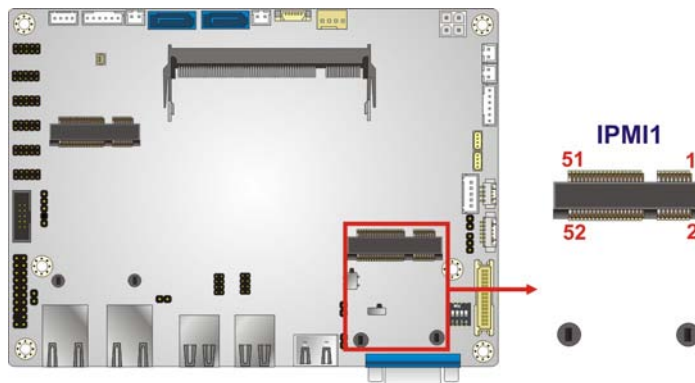

Figure 3-11: iRIS-1010 Module Slot Location
- CN Location: See **Figure 3-11**